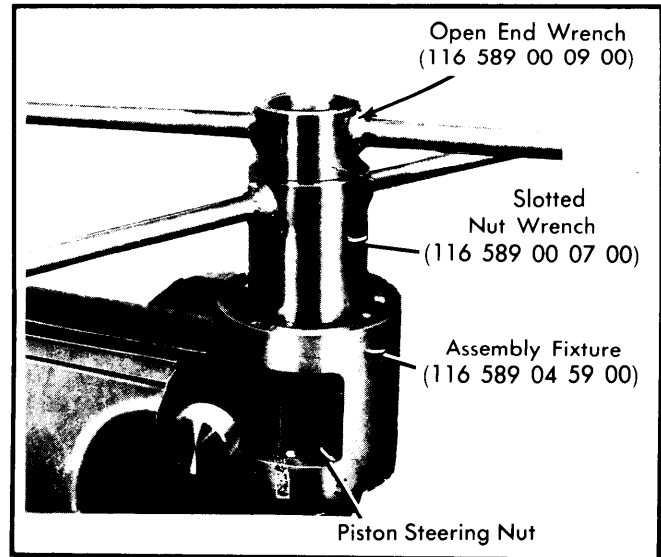

Fig. 7 Removing Worm Gear Nut from Piston Steering Nut
10) Using suitable clamp and tools (Fig. 7), remove worm gear nut from piston/steering nut. Remove seal ring and "O" ring from worm gear nut. On early models, remove axial disc from worm gear nut.